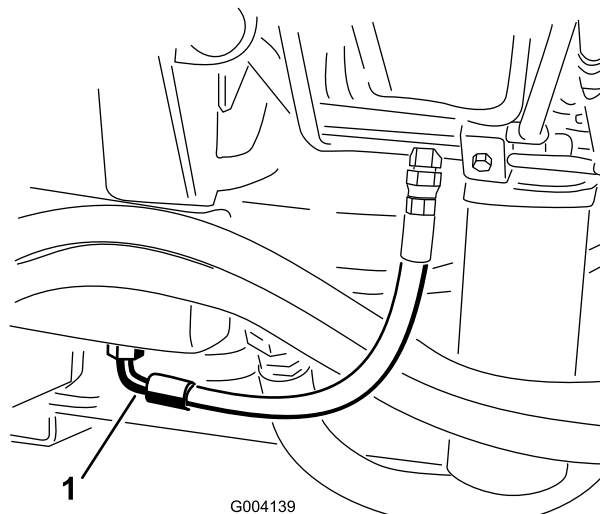

Figure 51
2. Place a large drain pan under the fitting secured to the bottom of the hydraulic fluid reservoir (Figure 51).